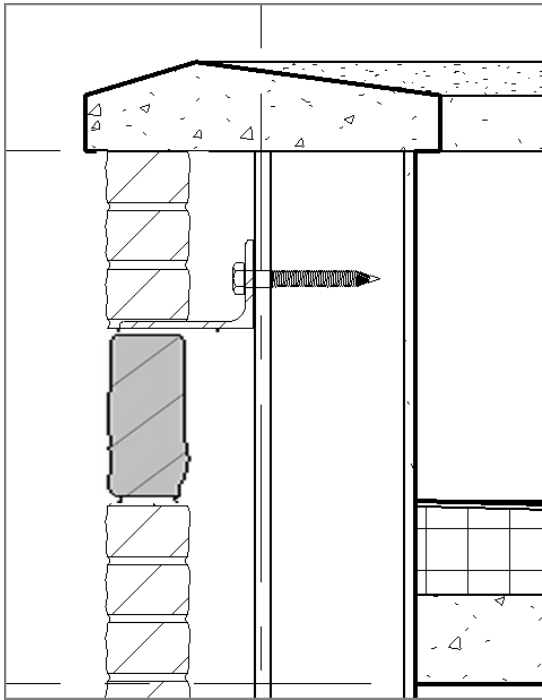

FIGURE 12.36: Inserting the lag bolt
4. Insert the lag bolt into the angle, as shown in Figure 12.36.